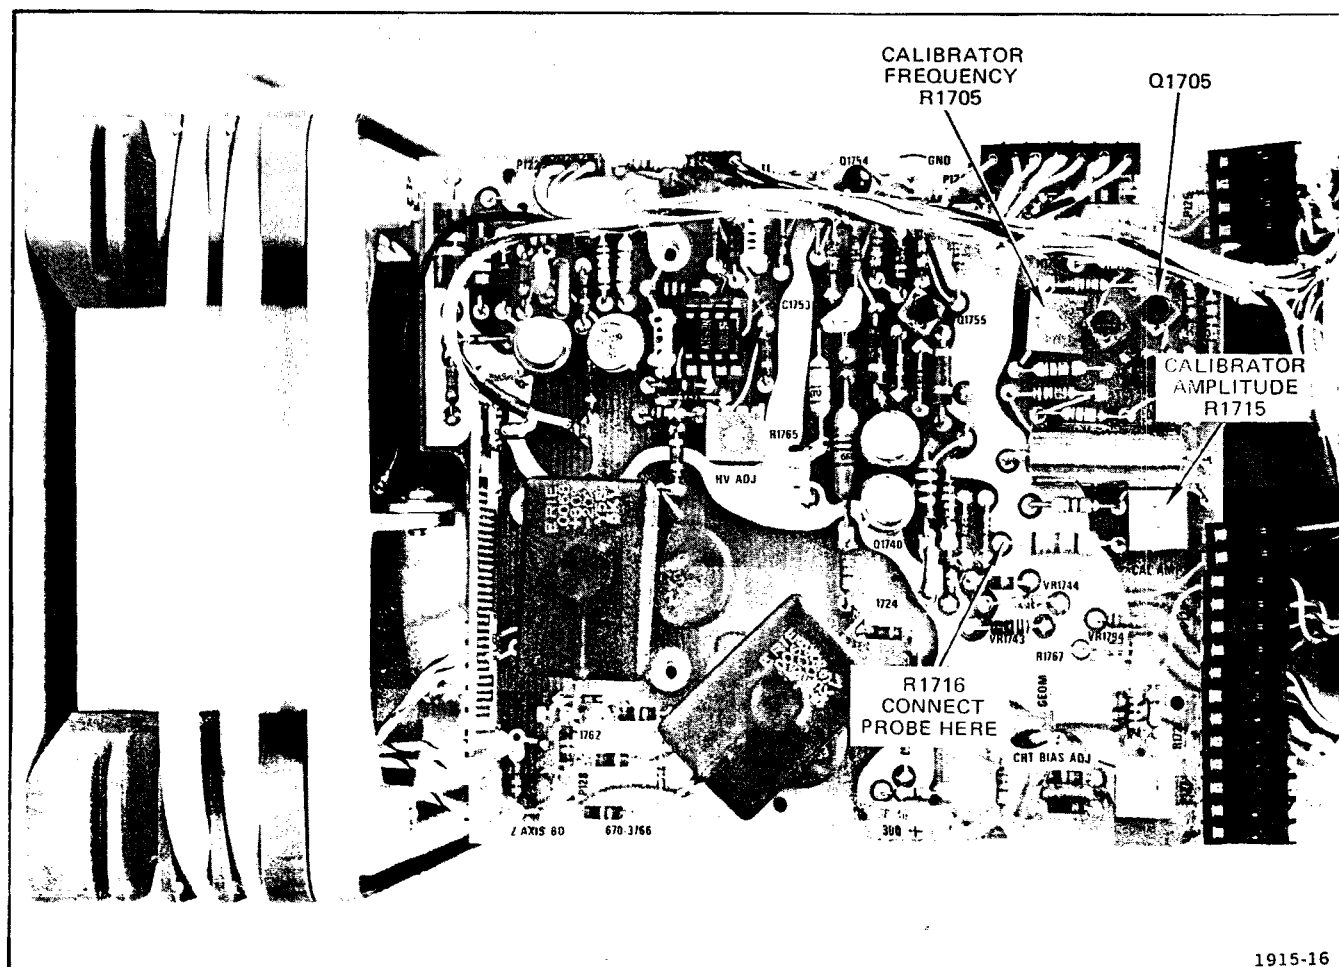

Fig. 5-10. Location of Calibrator circuit components.
d. ADJUST—R1715 (see Fig. 5-10) for a DC voltage measurement of 0.6 volt.
a. Remove Q1705 from its socket (see Fig. 5-10).
a. Connect a 10X probe (434 standard accessory) to the CH 1 input connector. Connect the tip of the probe to R1716 (see Fig. 5-10).